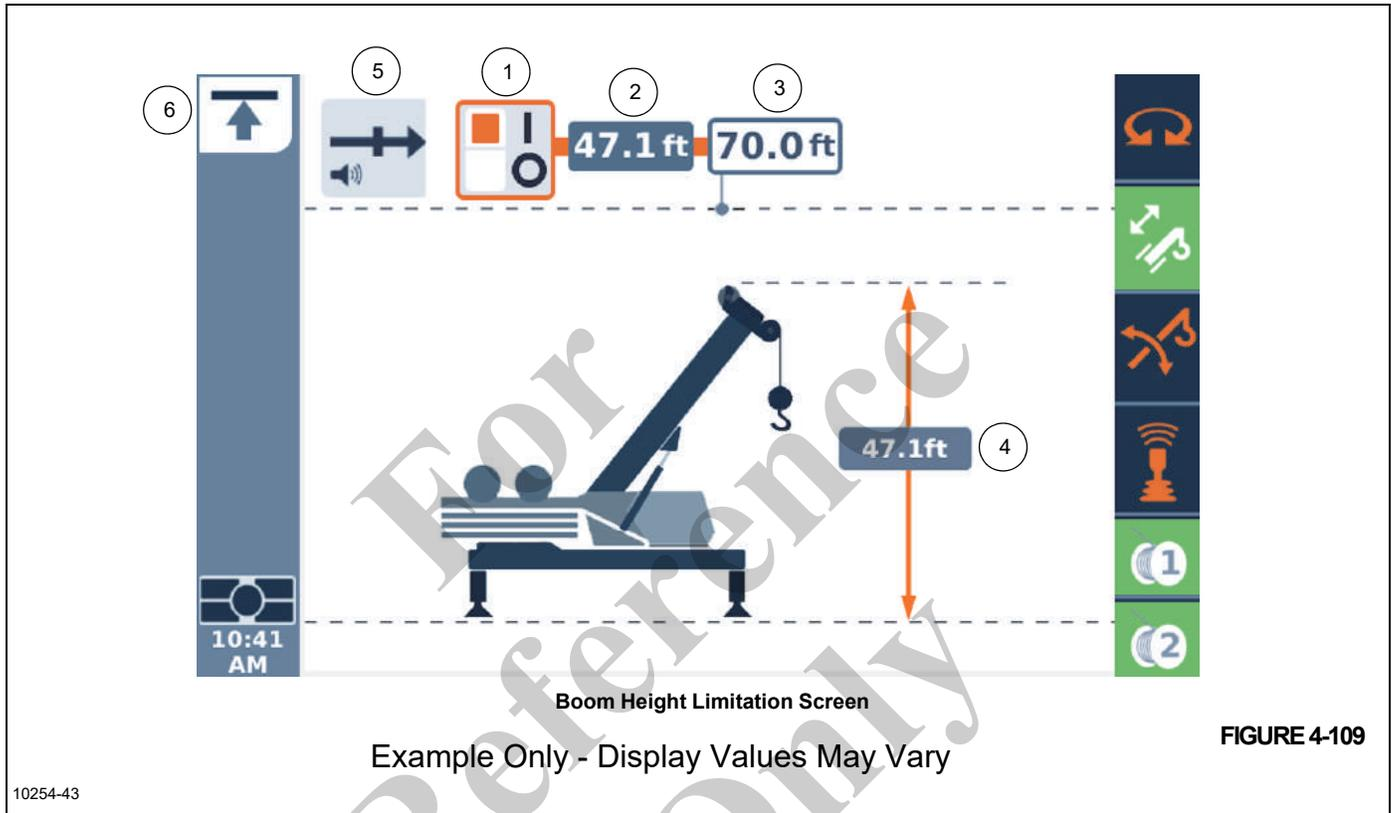

FIGURE 4-109
If the Boom Height Limitation is selected from the menu of WRL Limitations, then the Boom Height Limitation Screen will be shown (Figure 4-109).
(5, Figure 4-63) changes the Icon highlighted on the screen. As the arrow keys are pressed, the highlight will move between the Icons, with the color orange typically meaning that the object is selected and can be affected by subsequent actions. In Figure 4-109, Item 1 is highlighted in orange.
The Boom Height Limitation Menu allows the operator to set a limit for the maximum boom height. Item (6, Figure 4-109) shows the Boom Height Limitation Icon. Table 4-9 lists the WRL Limitation Screen Symbols.
3. Select the Boom Height Limitation Menu (4, Figure 4-108). **NOTE:** The Boom Height Limitation Icon (6, Figure 4-109) is shown on the top left side of the ODM screen.
5. Enable the Limitation by using the Jog Dial (5, Figure 4-63), or the Arrow Keys (4, Figure 4-62) to move and select the Enable/Disable Switch Symbol ON/Off (1, Figure 4-109). **NOTE:** The Switch (1, Figure 4-109) is a toggle switch. Click OK (5, Figure 4-62), or the Jog Dial (5, Figure 4-63) to toggle the switch.
**NOTE:** The current value in Limitation (2) will automatically populate in the value for Limitation (3).
3. Select the Boom Height Limitation Menu Screen (4, Figure 4-108). **NOTE:** The Boom Height Limitation Icon (6, Figure 4-109) is shown on the top left side of the ODM screen.
move to the Enable/Disable Switch (1, Figure 4-109). **NOTE:** The Switch (1, Figure 4-109) is the Enable/Disable Switch and is a toggle switch. Click OK (5, Figure 4-62), or the Jog Dial (5, Figure 4-63) to toggle the switch. Click OK.
5. Use the Right Arrow Function key to highlight the Limitation Value (3, Figure 4-109). Use the OK Button (5, Figure 4-62) to begin entering the value. Use the Up Arrow or the Down Arrow or Jog Dial (5, Figure 4-63) to change the value (in tenths) to the desired tip height value.
2. Use the Left Arrow and/or Right Arrow Function keys (4, Figure 4-62) to highlight the Switch Enable/Disable Symbol (3, Figure 4-109). Enable is “I” and Disable is “O”.